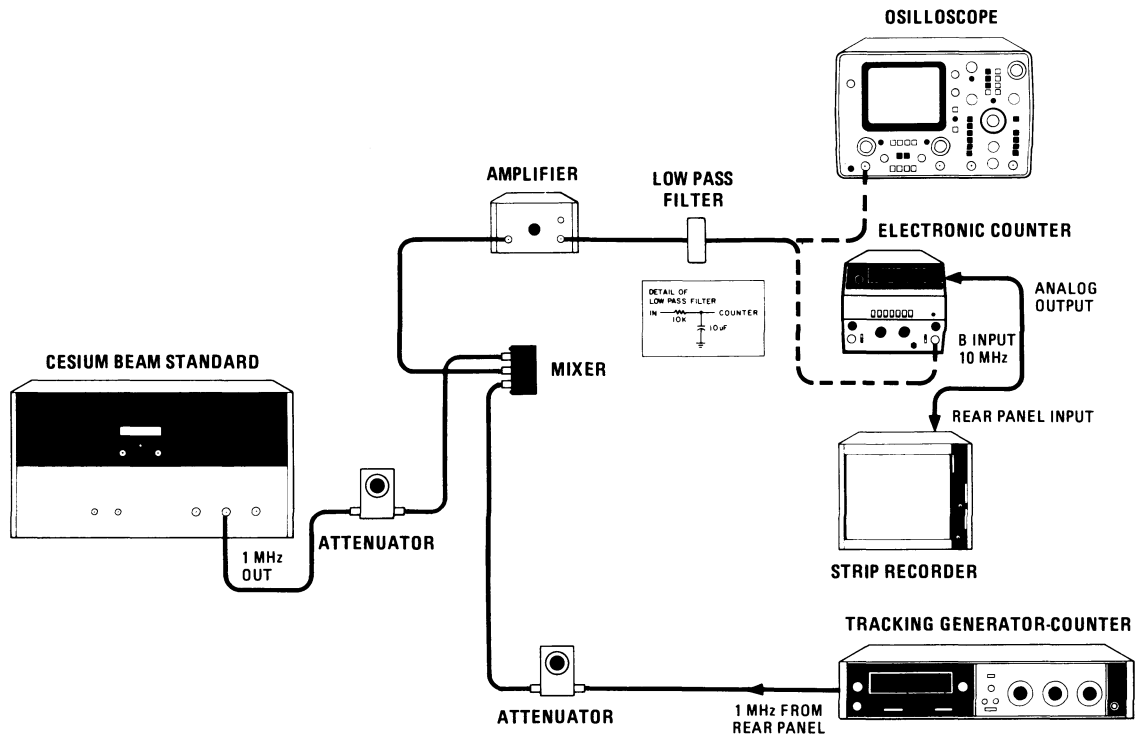

Figure 4-5. Time Base Aging Rate Test Setup
- 2. After connecting the equipment as shown in Figure 4-5 and setting the controls, use the oscilloscope to check for the presence of 50 Hz ac on the input to the frequency counter. If 60 Hz ac is present, it is probably caused by a ground loop. Check all equipment grounds.